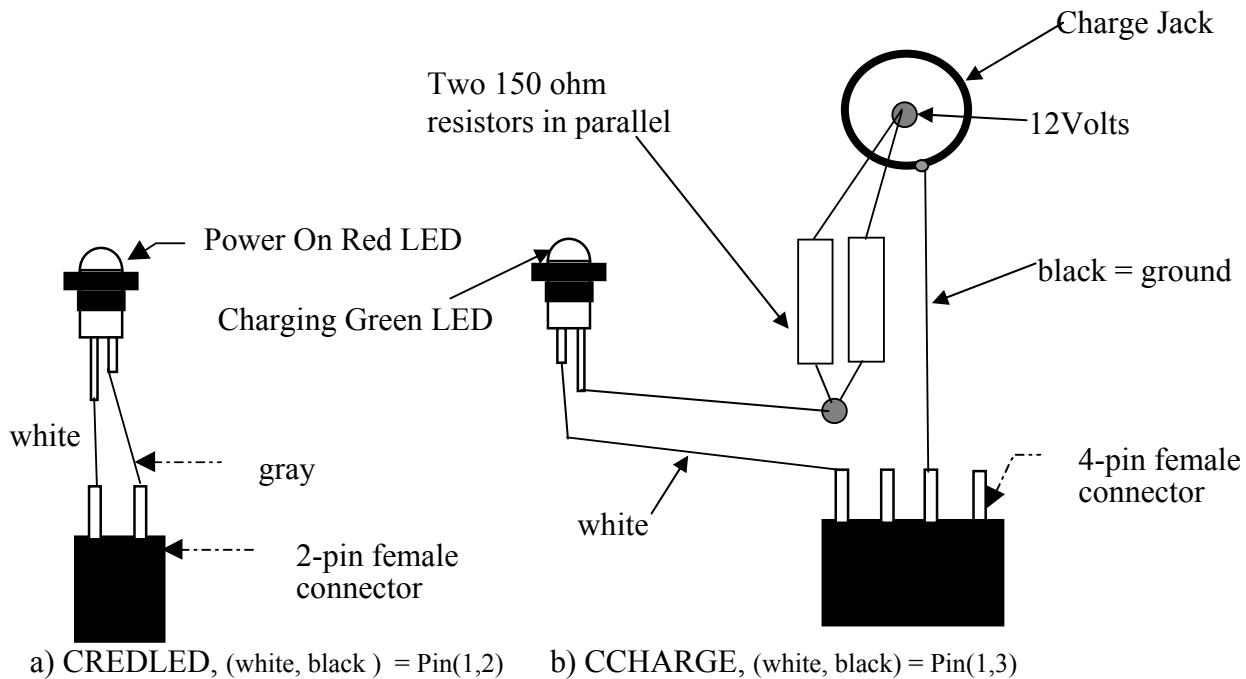

Figure 25 Cabling for a) the *Power-On* red LED and b) the *Charging* green LED and the recharge jack with power limiting series resistors.
4. Wire the Red LED power-on indicator as illustrated in Figure 25 a). The white wire solders to the anode of the LED. Cut length of cable to 4 inches.
5. Cable the recharge jack as shown in in Figure 25 b). Cut wire to 6.5 inches. Wire two 150 ohm resistors in parallel by twisting and soldering their leads together at both ends. Solder one end of the parallel resistors to the external pin of the recharge jack that electrically connects to the pin inside the jack and the other end to the longer lead (anode) of the *Charging* green LED.